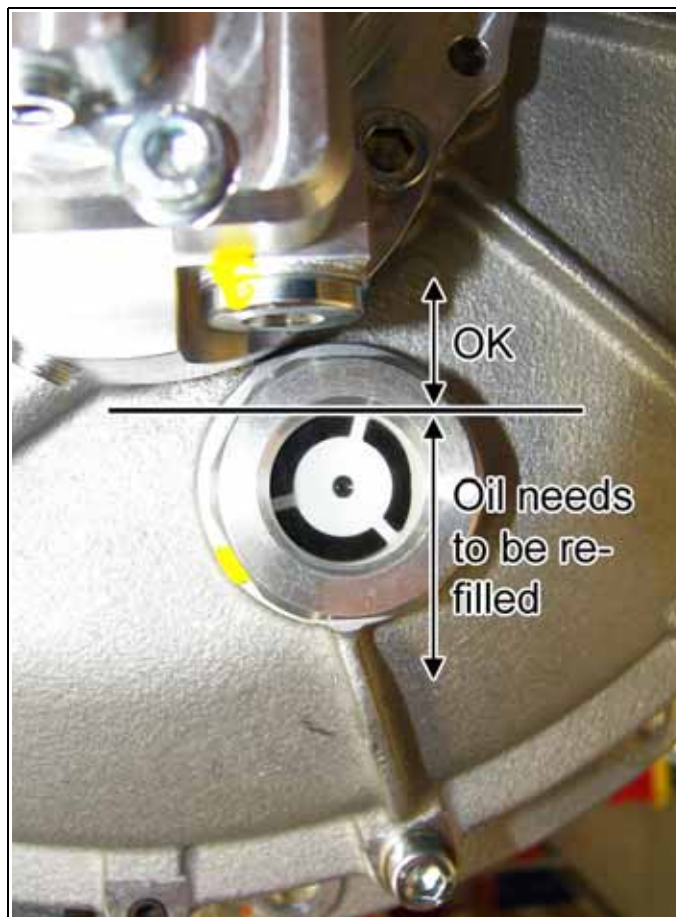

Fig. 6.21 Check the oil level
1. Check oil level through the inspection glass of the gearbox. The oil level must reach the top of the inspection glass, air bubbles must not be visible. See Fig. 6.21.
- Fill in the new gearbox oil until the oil level reaches the top border of the oil level inspection glass (Marking line in Fig. 6.21). Air bubbles must not be visible.